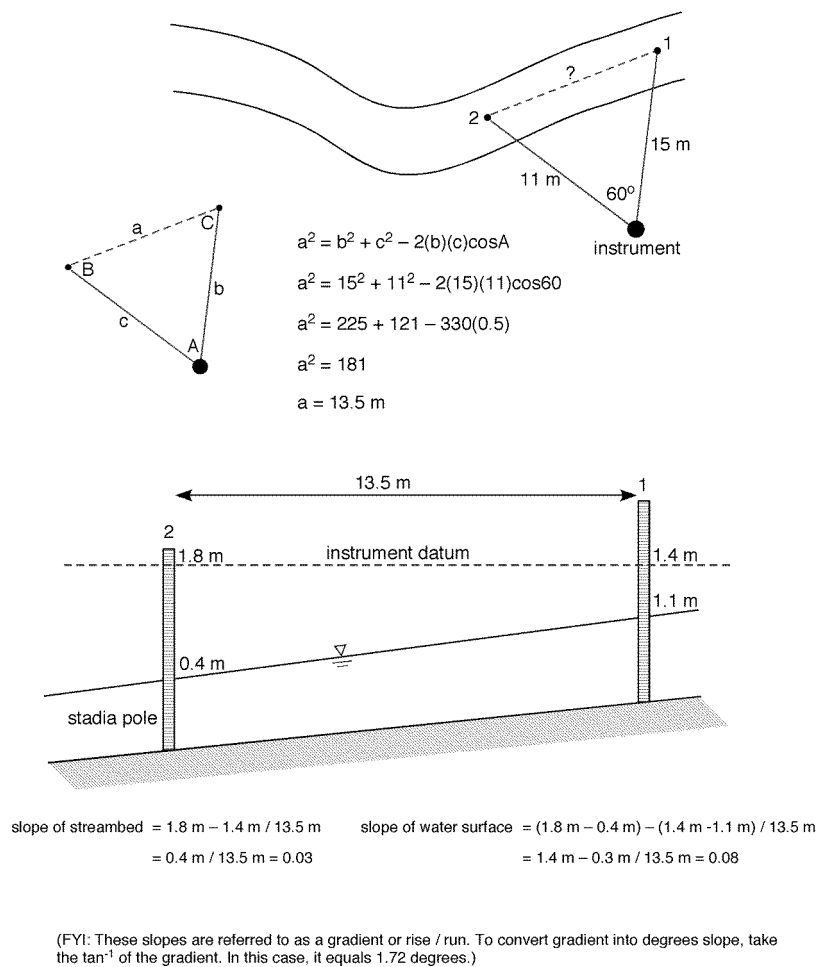

Figure 2. Stream surveying techniques.
A longitudinal profile will allow the calculation of the stream **gradient** (S). It is typically surveyed along the main path of the current which ideally corresponds to the channel **thalweg**. If possible, select a transect that includes both pools and riffles, and is approximately 5–7 channel widths long. See Figure 2 for information on how to survey using the auto level. Make sure to capture changes in both topography and water depth. Record where each cross-section crosses the long profile.
Construct a longitudinal profile using the surveying techniques illustrated in Figure 2.